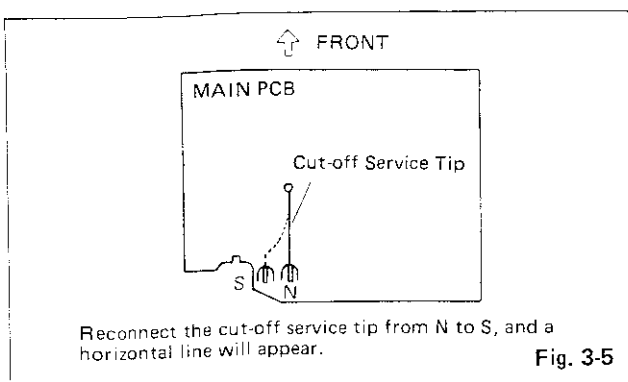

Fig. 3-5
4. Change a service tips as shown in Fig. 3-5.